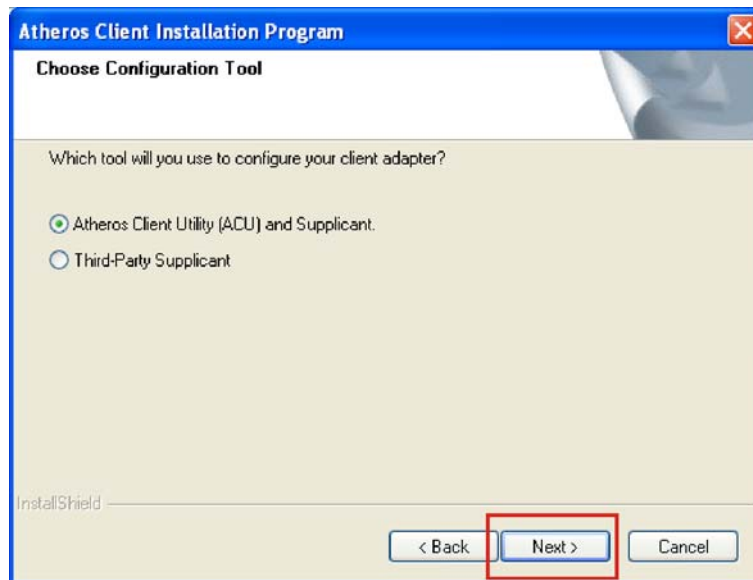

Figure 6-35: Choose Configuration Tool
Step 16: The Choose Configuration Tool window appears (Figure 6-35).
Step 17: Choose the configuration tool to use (this installation covers the “Atheros Client Utility” setup) (Figure 6-35).
Step 18: Click Next to continue (Figure 6-35).